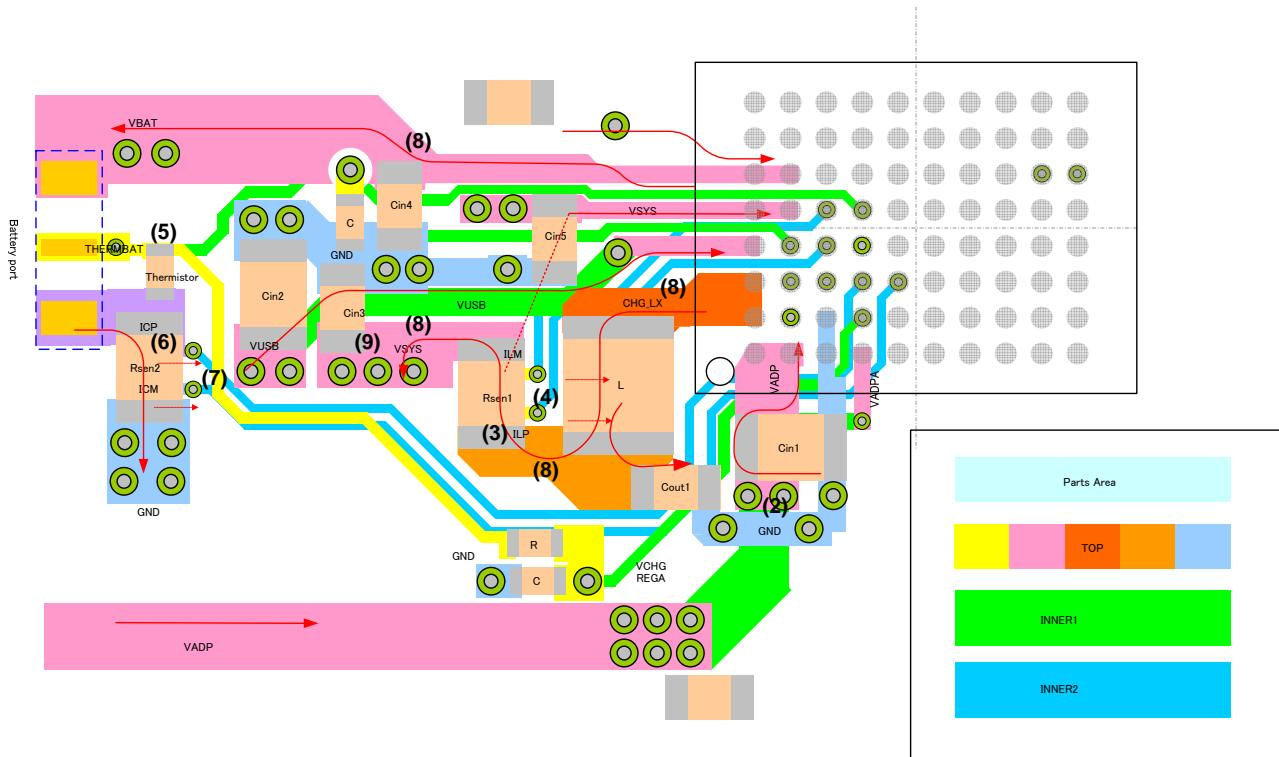

Fig. 1-4: Example of Charger Block Pattern (Top Layer)
- (1) Place the parts to minimize the switching current loop. (Figure 1-4: red line)
- (2) Place "VADP" capacitor as close as possible to RC5T619-1xxx, and route the line to RC5T619-1xxx short and widely in order to minimize resistance.
- (3) Because "R_{SEN1}" Is the resistance which fixes accuracy of the current, use the high accuracy it as possible.